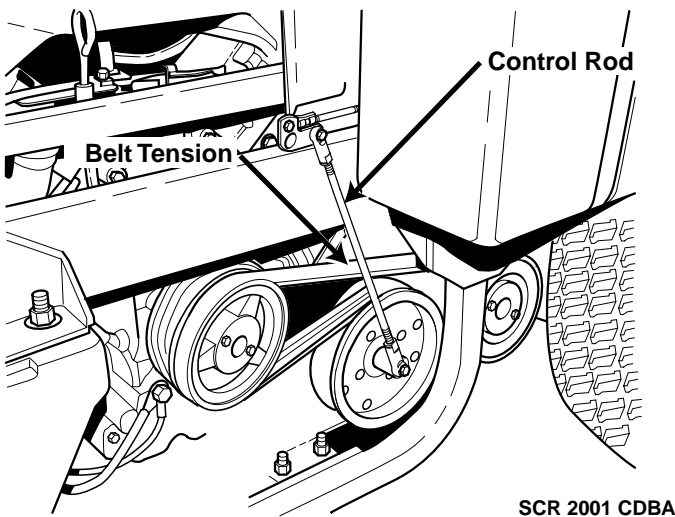

Figure 6-6 Engagement Belt Adjustment
1. Check the tension on the belt. (See Figure 6-6). There should be 1/2" deflection with 10lbs. of force at the longest span between pulleys.
2. To increase or decrease the belt tension, loosen the jam nuts on the control rod and turn until the proper belt tension is achieved. (See Figure 6-6)